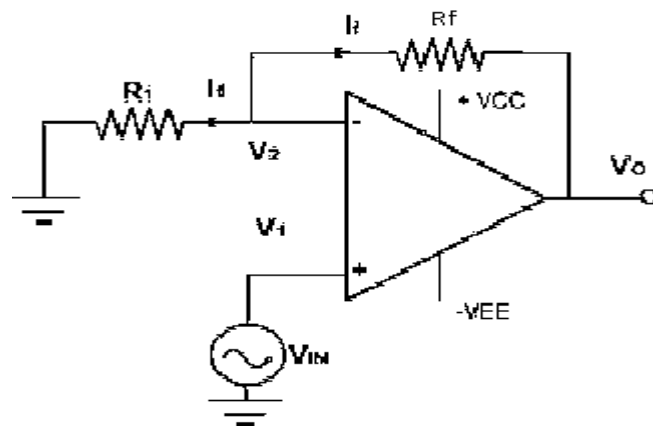

Figure 3.2 Non Inverting Amplifier
4. Connect R_1 and R_F as shown in Figure 3.2